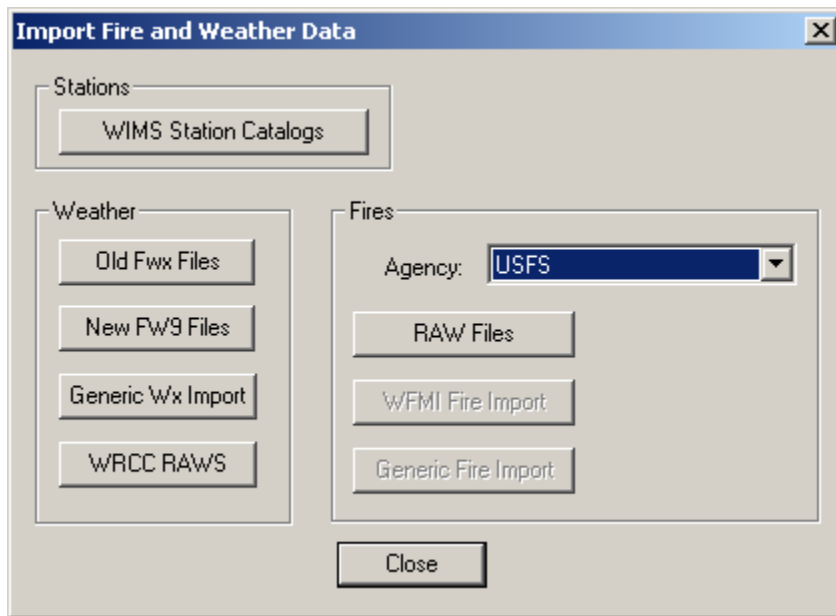

Figure 3-17—Importing past fire data.
- d) Finally, the fire occurrence data will be imported, under *Fires* select USFS from the drop-down list to the right of *Agency* (fig. 3-17).